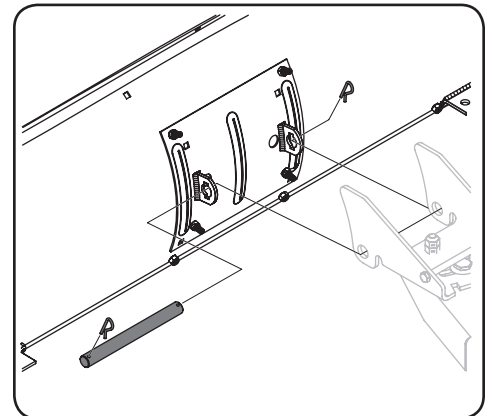

Figure 2-11
1. Slide pivot shaft (711-06173) into location shown and secure with 2 cotter pins (714-0209) found in hardware pack 6 (689-00666) to secure plow blade to tongue assembly. Gently tap cotter pins into place with a mallet if required. See Figure 2-11.